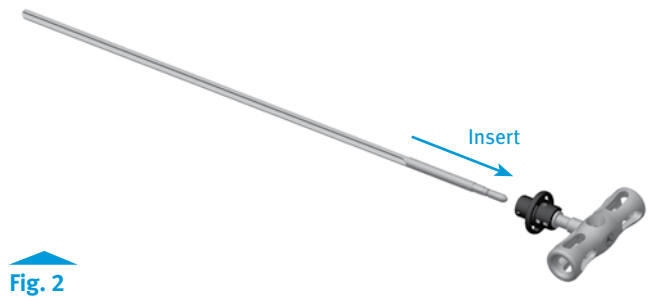
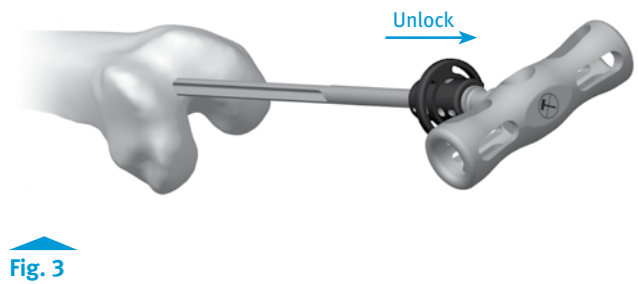

Fig. 2
Fig. 3
- Insert the Femoral IM Rod into the Modular T-Handle (Fig. 2) and insert the IM rod into the femur far enough to ensure the most accurate replication of the anatomic axis, then remove the T-handle (Fig. 3).